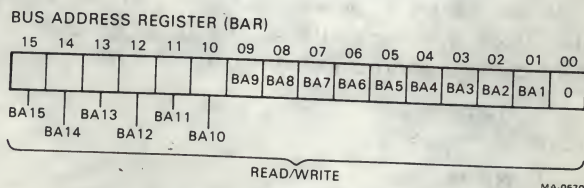

Figure 7 Bus Address Register
**Bus Address Register (BAR)** — The bus address register (Figure 7) is a 16-bit, word-addressable register with an address of 174402. Bits 0 through 15 can be read or written; bit 0 should normally be written as 0. Expansions bits 16 and 17 are programmable via bits 4 and 5 of the CSR.